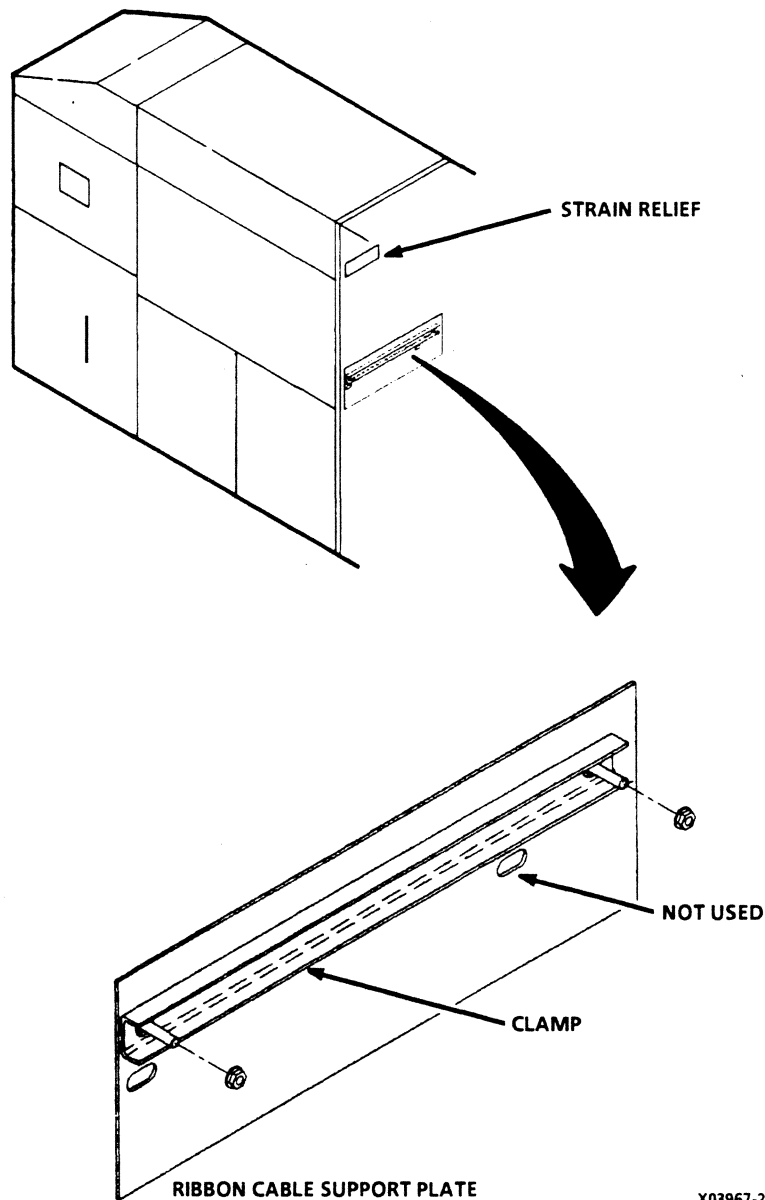

Figure 2-19. Strain Relief and Cable Support Plate
- ___ 7. Fasten cables through strain relief, located above cable connections (figure 2-19).